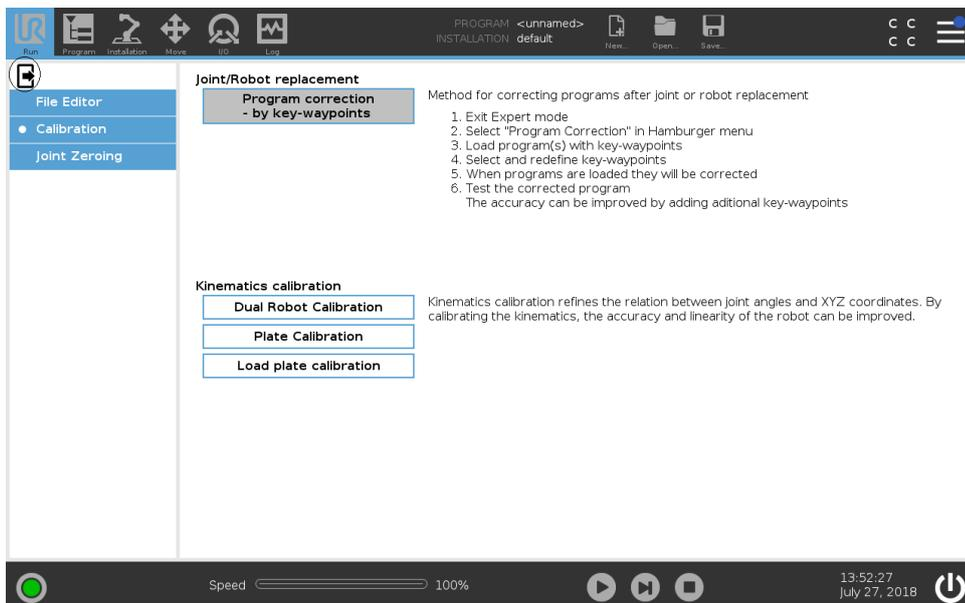

Figure 3.2: Exit button is under the Run Tab
- (3) In the menu on the left, select **Calibration** and tap **Program correction by key-waypoints**.
- (4) Tap the exit button to exit Expert Mode, (see Figure 3.2)